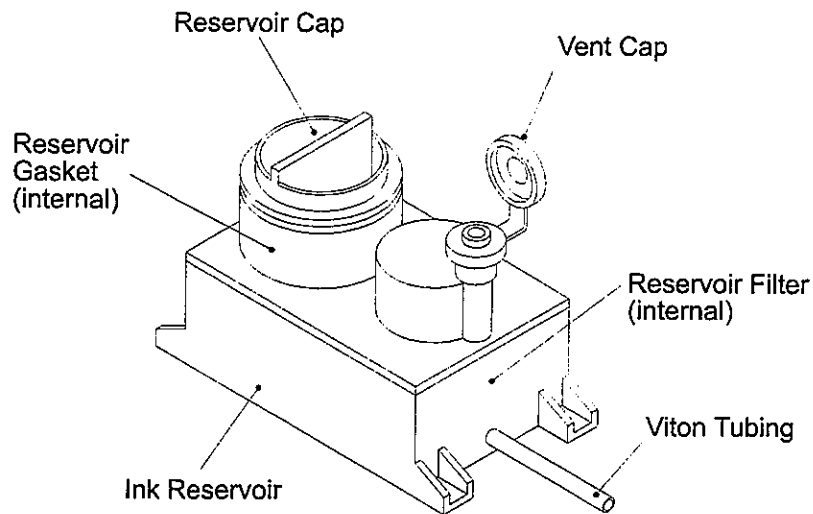
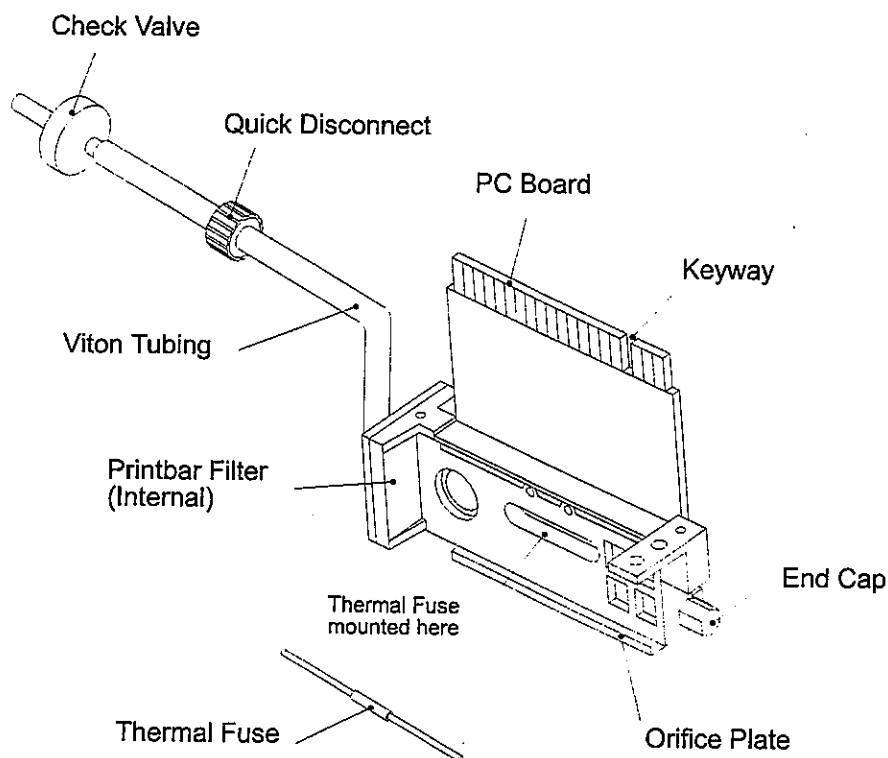

Figure 4.5 - Ink Reservoir.
Figure 4.6 - Printbar and components.
Follow the steps below to setup a Printbar that is already installed on the Inkjet. Please refer to Figure 4.5 and Figure 4.6 for an illustration of the ink Reservoir and the Printbar.
1. Open the ink Reservoir Vent Cap (*see Figure 4.5*). This cap must remain open when the Printbar is operating.
Follow the steps below to install a new Printbar on the Inkjet system. Please refer to *Figure 4.5 and Figure 4.6* for an illustration of the ink Reservoir and the Printbar. The Printbar is shipped in a square box with the serial number on the outside of the box.
4. Open the ink Reservoir Vent Cap (*see Figure 4.5*). This cap must remain open when the Printbar is operating.
The basic components of the ink Reservoir include the Reservoir Cap, Vent Cap, Gasket, Level detect, and Filter. *Figure 4.5* below shows an illustration of the ink Reservoir.
The basic components of the Printbar including a Filter, Thermal Fuse, and End Cap are described below. *Figure 4.6* shows an illustration of a Printbar.
The PC Board is keyed (*see Figure 4.6*) with a slot to assure proper coupling with the Printbar cabling. The gold-plated edge connector must be kept clean of ink at all times so as to provide a good contact.
The Thermal Fuse is installed into the Printbar's body to prevent overheating of the Printbar. The Fuse will open at temperatures of $70^{\circ}\text{C} \pm 1$ ($160^{\circ}\text{F} \pm 2$) for all Printbars. The Fuse is field replaceable by use of a small screwdriver and a soldering iron. Refer to *Figure 4.6* for the location of the Fuse on the Printbar. The fuse leads should not touch the Printbar body on installation.
1. Remove the priming hose from the Reservoir Vent Cap (*see Figure 4.5*).